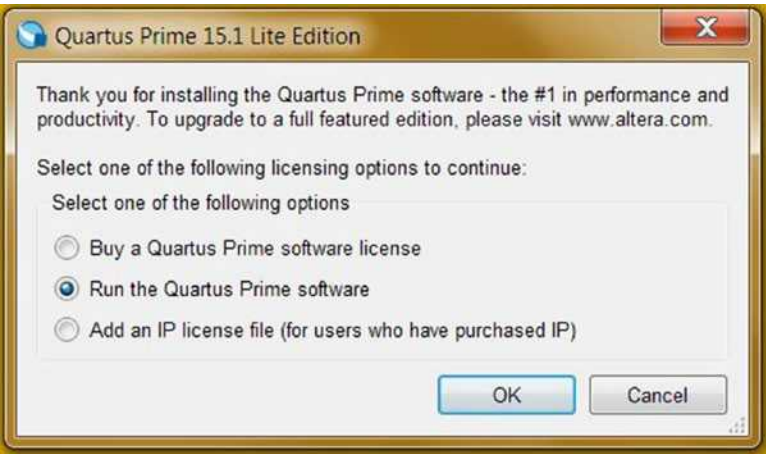

Figure 3-20. *Quartus Prime 15.1 Lite Edition licensing options*
9. Select *Run the Quartus Prime software* and click *OK* in Figure 3-20. It means that you selected the Lite edition. The Lite edition doesn't need any software license to run it.